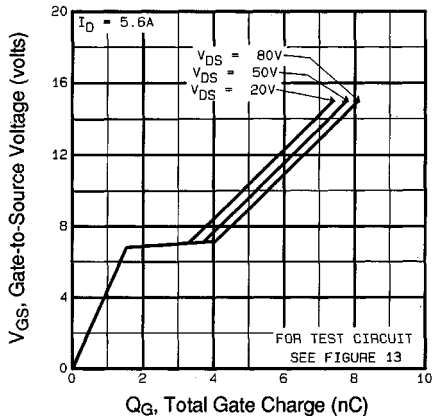

Fig 6. Typical Gate Charge Vs. Gate-to-Source Voltage
| Q_{gd} | Gate-to-Drain ("Miller") Charge | — | — | 3.8 | | $V_{DS}=10V$ See Fig. 6 and 13 ④ |